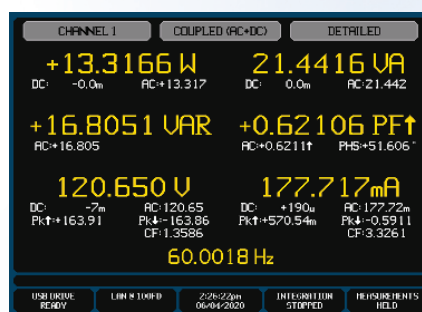

Figure 2. A power analyzer's power data screen shows key lighting parameters.
A power analyzer can be used to measure LED lighting products during the design, production and verification phases of the device's development. This enables the user to verify that the LED product meets all required specifications by showing the following parameters: voltage, current (ripple), power, apparent power (VA), reactive power (VAR), power factor (PF), frequency and efficiency (Figure 2).